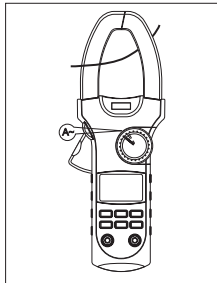

Figure 10
**H. Measuring AC Current** (See Figure 10)**Warning**